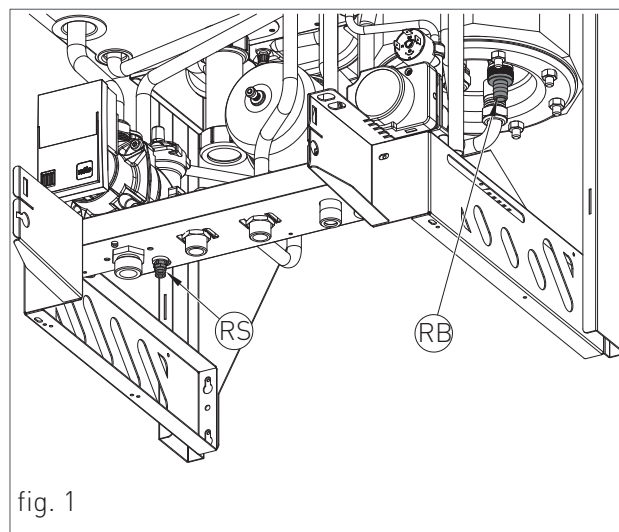

fig. 1
- › Joint the water draining pipe and open the cylinder draining tap ‘RB’ (fig.1)